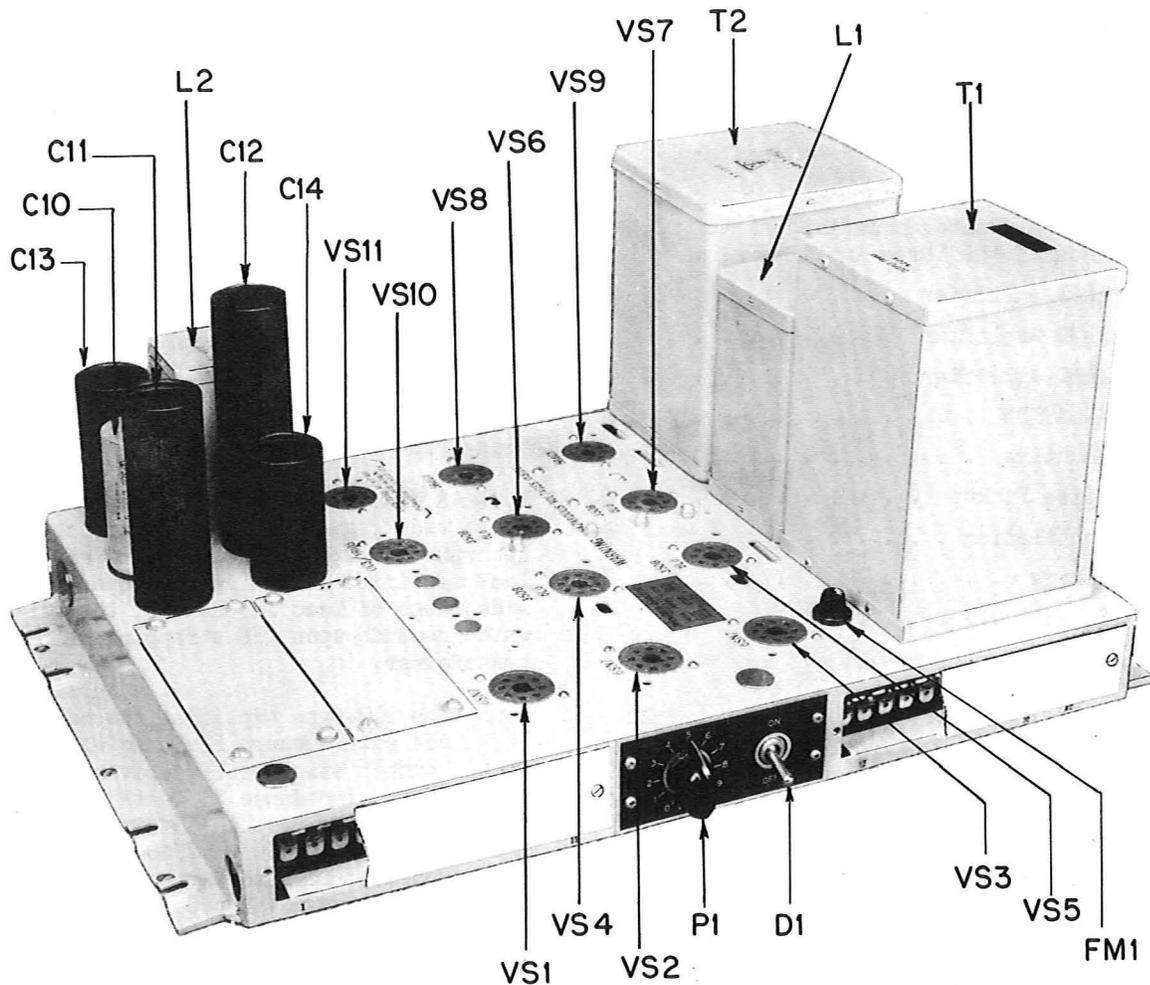

Fig. 1 - 143A Amplifier
1.13 Fig. 1 shows a front view of the 143A amplifier. The other two models are similar in appearance except that additional apparatus units are mounted on the left side of the chassis.